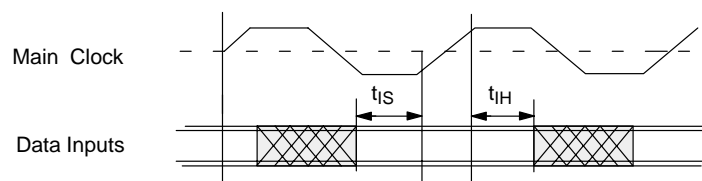

Fig. 4-23: Picture bus input timing
4.6.4.8. Picture Bus Input (see Fig. 4-23)